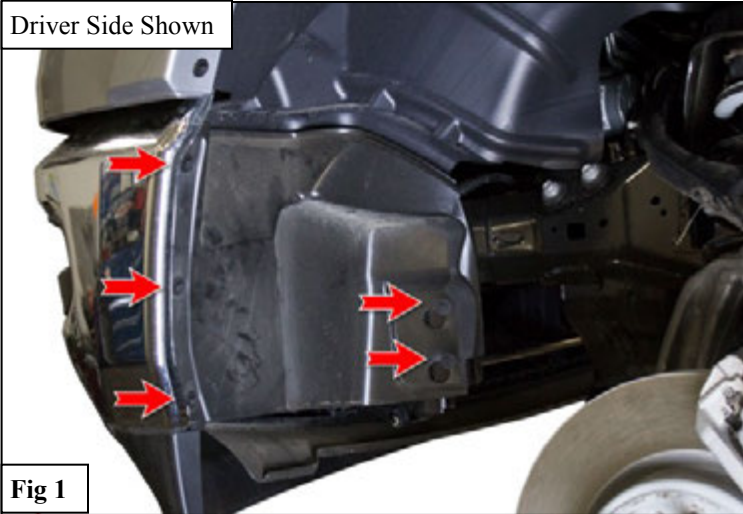

Fig 1
3. Remove the front inner fender pieces by removing the 5 screws shown in **Figure 1**.